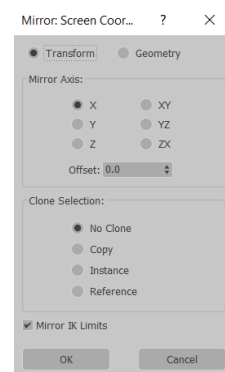

Figure 3-52 The **Mirror: Screen Coordinates** dialog box
2. Choose the **Mirror** tool from the **Main Toolbar**; the **Mirror: Screen Coordinates** dialog box is displayed, as shown in Figure 3-52.